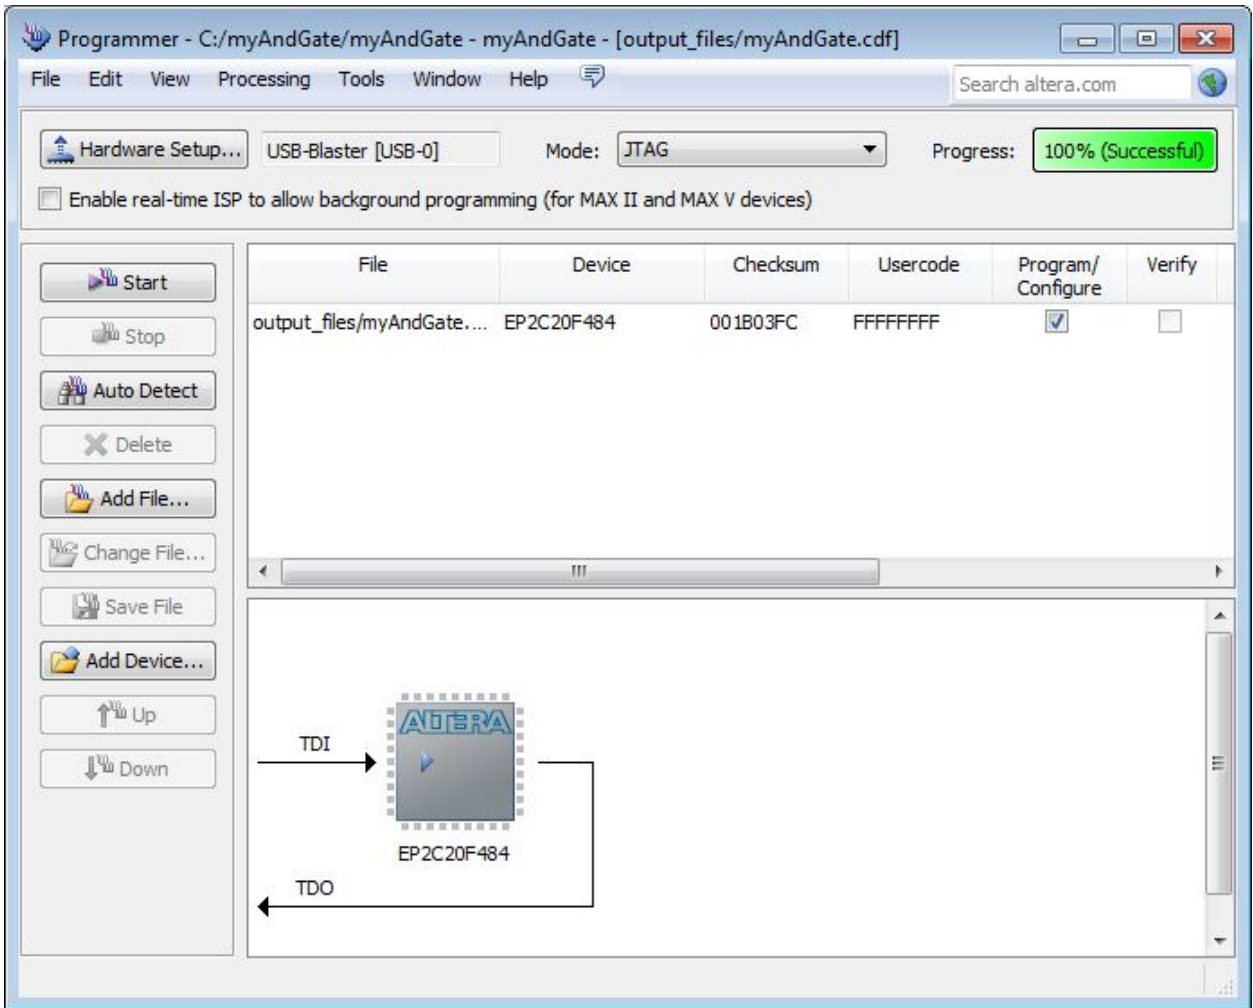

Figure 15: The Programmer window showing that the chip was programmed successfully with your circuit.
2. From the Quartus II menu, select **Tools | Programmer** to bring up the Programmer window as shown in Figure 15. Alternatively, you can click on the **Programmer** icon .